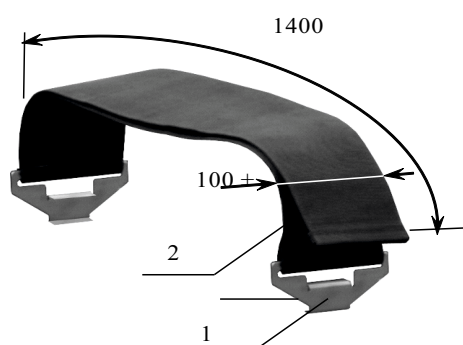

Figure 4. Patient restraint strap.
4. Patient restraint strap (waist strap) (Figure 4). Soft synthetic strap 100 mm wide with fixing hooks, adjustable in length.